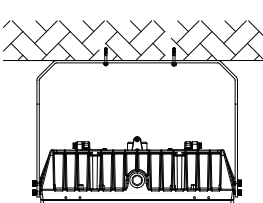

Figure 5
- 5.Hang the fixture into the lifting hook or chain and protect it from falling.(Figure 5).
- 7.After installation, please wire in accordance with local wiring standard,and make sure to take good waterproof measures at the joint of conduit. Users can adjust 30-60-90 degree to left or right from vertical downward direction by adjusting the screw on the bracket. (Figure 5.Figure A).